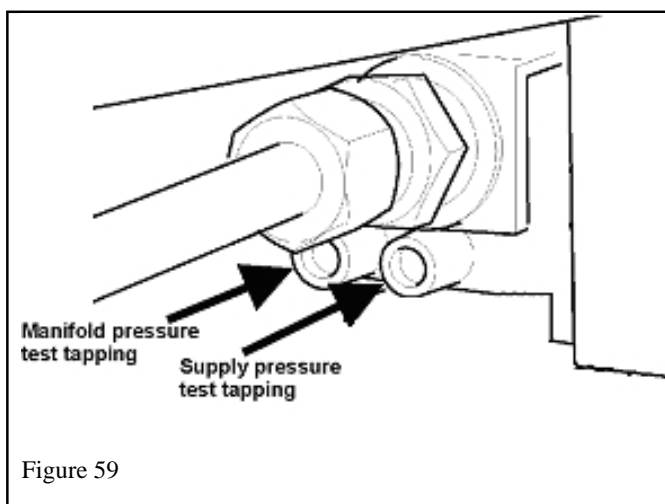

Figure 59
10. The pressure test tapping locations are shown in figure 59. A built-in non-adjustable regulator controls the burner manifold pressure. The correct pressure range is shown in the table in section 3 of this manual. The pressure check should be made with the burner alight and the thermostat at its highest setting. See lighting instruction section for full operating details.